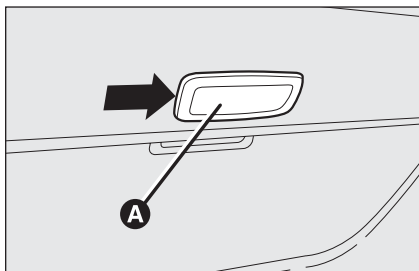

fig. 40
- remove the light unit **A-fig. 40** levering in the point shown by the arrow;